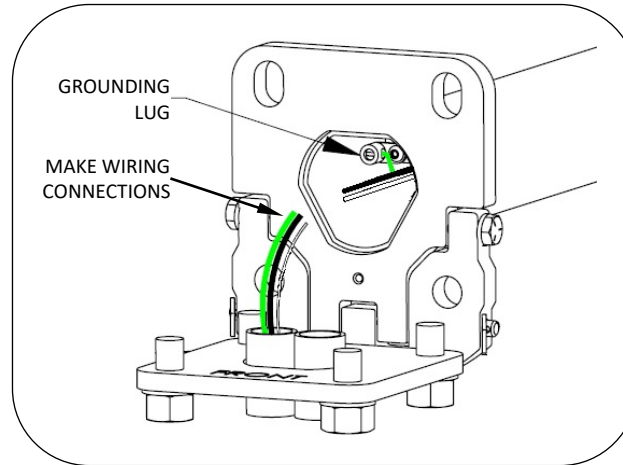

Fig. 3 - Make wiring connections
3. Connect line-in voltage wires to pre-installed wires in pole, see Fig. 3. Waterproof wiring connectors provided by others.
4. Connect incoming ground wire to grounding lug in base of pole, see Fig. 3.